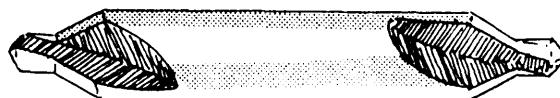

Figure 4-32.—Combined drill and countersink (center drill).
- Insert a center drill (fig. 4-32) in the spindle and make a center hole to aid in starting the drill. This is not necessary on small drills on which the dead center of the drill is smaller than the center-punch mark. But on large drills it will prevent the drill from “walking” away from the center-punch mark. This operation is especially important to drill holes on curved surfaces.